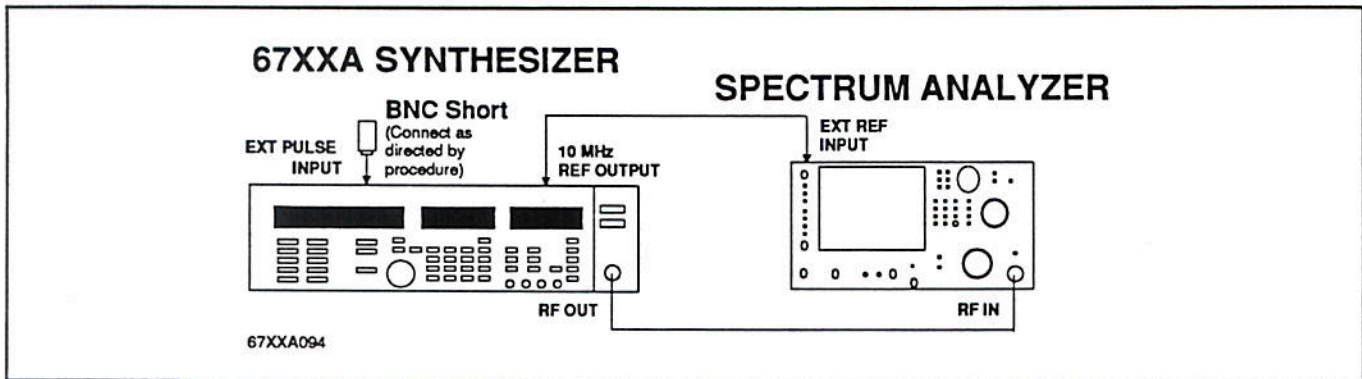

Figure 2-15. Equipment Setup for Pulse Modulation Test: RF ON/OFF Ratio
1. Connect the equipment as shown in Figure 2-15.